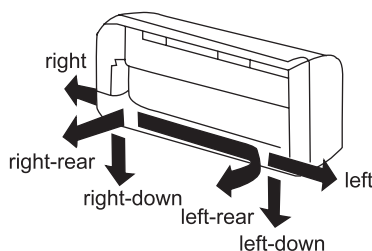

Figure 1
1. Connection tube can go out from six directions, select one for needed as shown in figure 1.